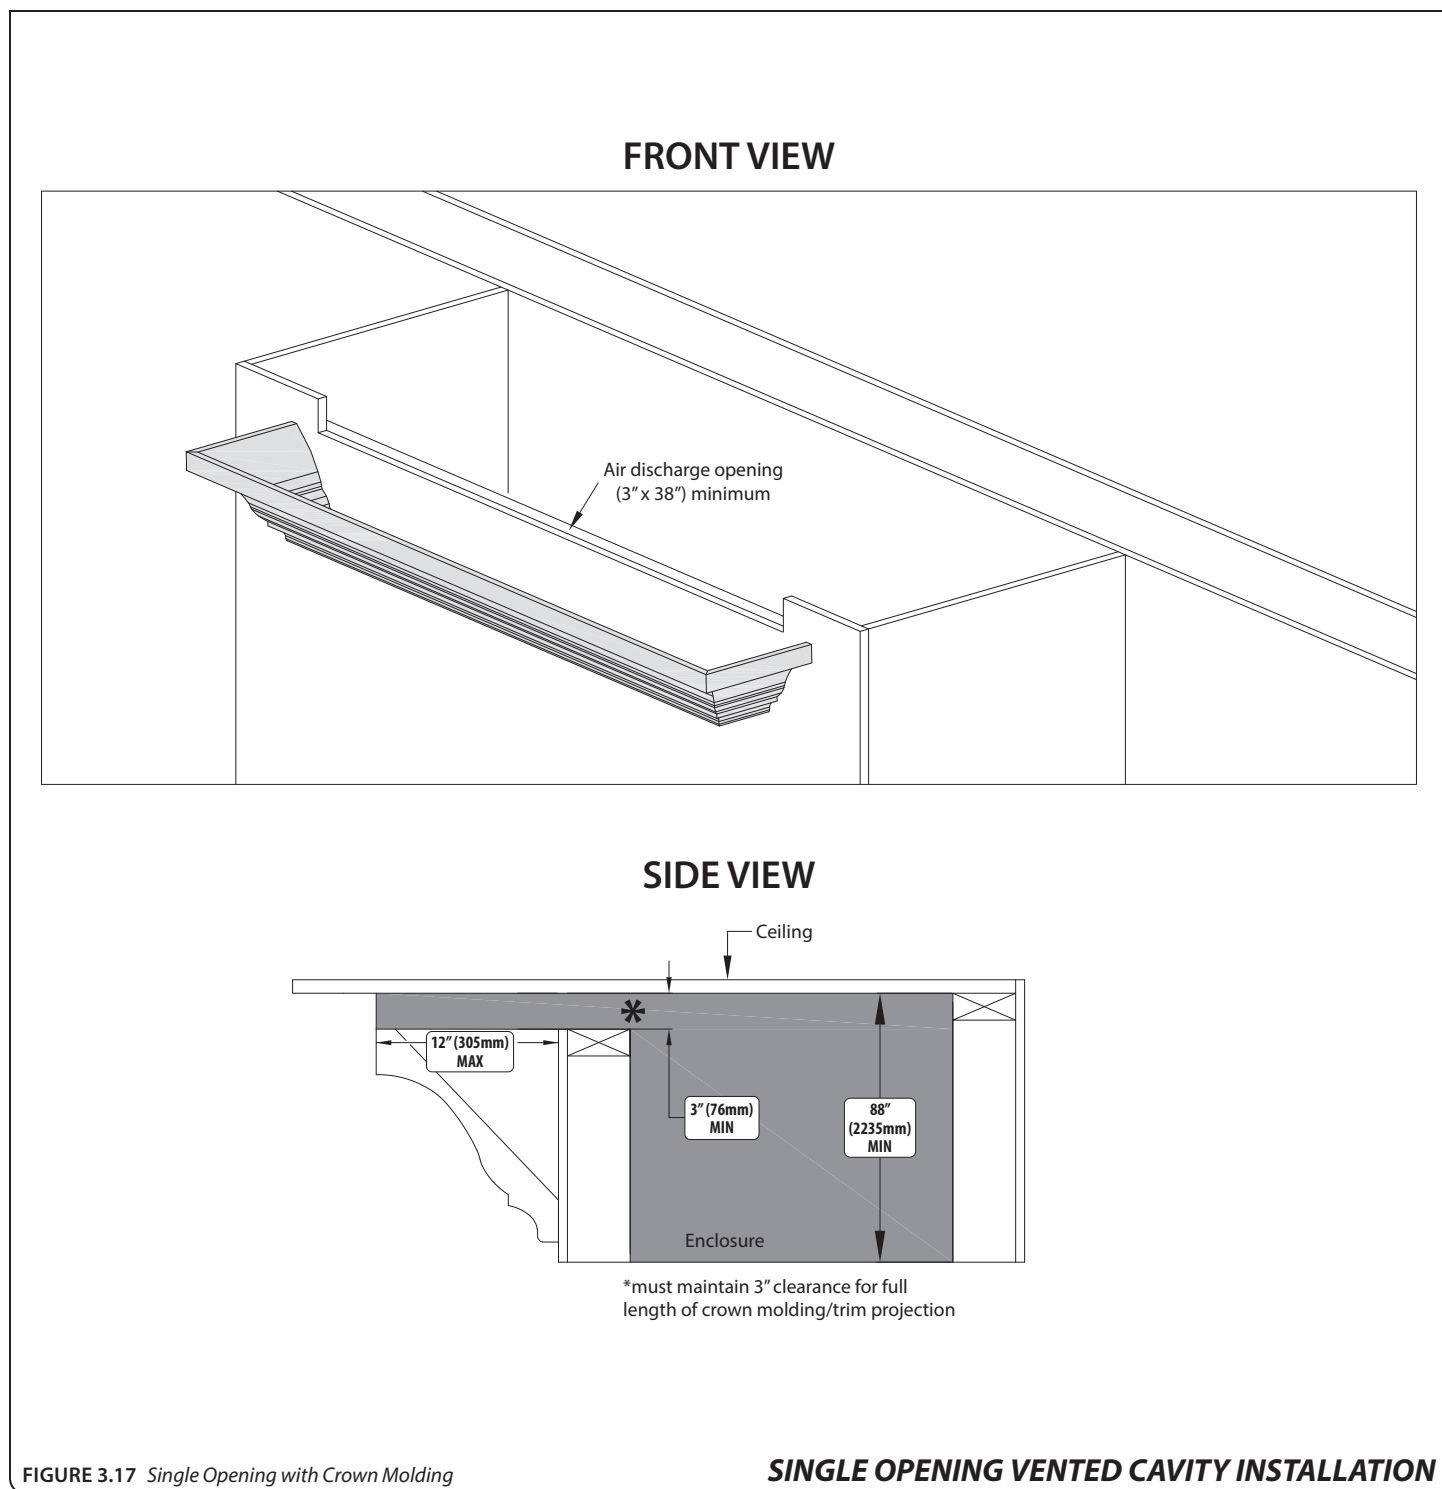

FIGURE 3.17 *Single Opening with Crown Molding*
- **FIGURE 3.17** shows the installation of crown molding or similar trim work that goes up to the edge of the air discharge opening. 12" (305mm) is the maximum length of the molding or trim projection and you must maintain 3" (76mm) clearance for the full length of crown molding/trim projection. This molding or trim cannot decrease the minimum opening requirement.